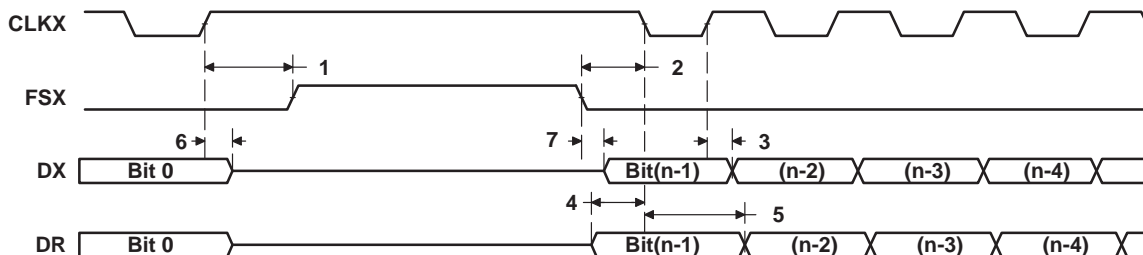

Figure 36. McBSP Timing as SPI Master or Slave: CLKSTP = 11b, CLKXP = 1
**timing requirements for McBSP as SPI master or slave: CLKSTP = 11b, CLKXP = 1†‡ (see Figure 36)**
(see Figure 36)